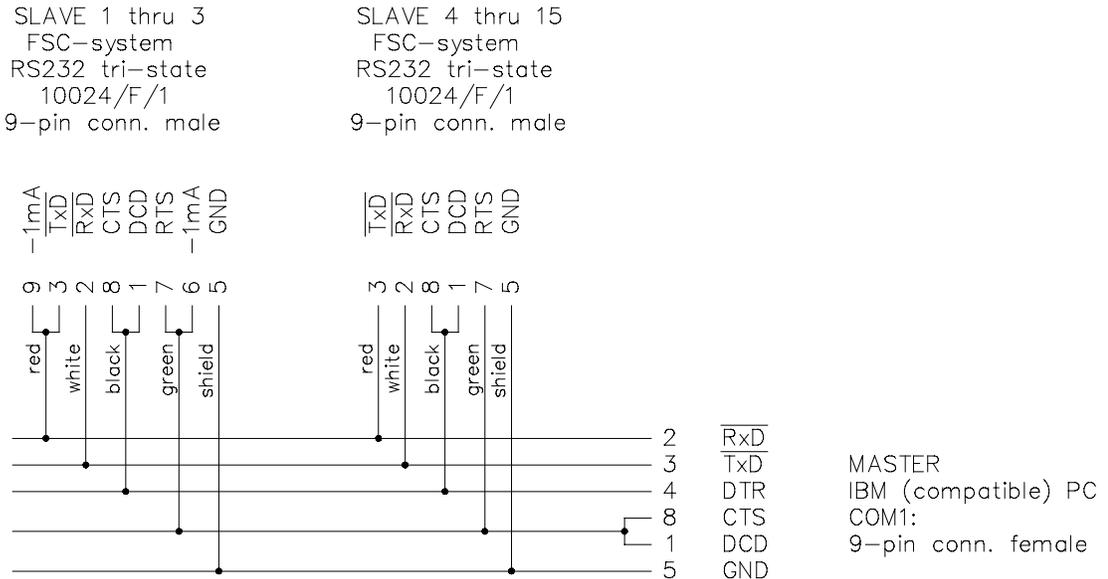

Figure 18 Connection between FSC system and FSC user station:
- Using a 9-pin connector with hardware handshaking (see Figure 18).